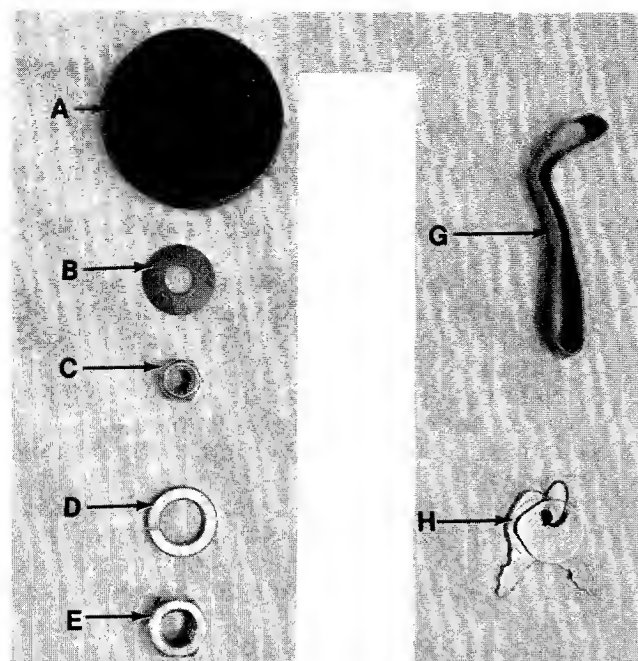

FIGURE 1.
## Contents of Hardware Pack: (See figure 1)
- B. Place seat on spring and secure with lock washer (D) and hex nut (E). See figures 1 and 3.